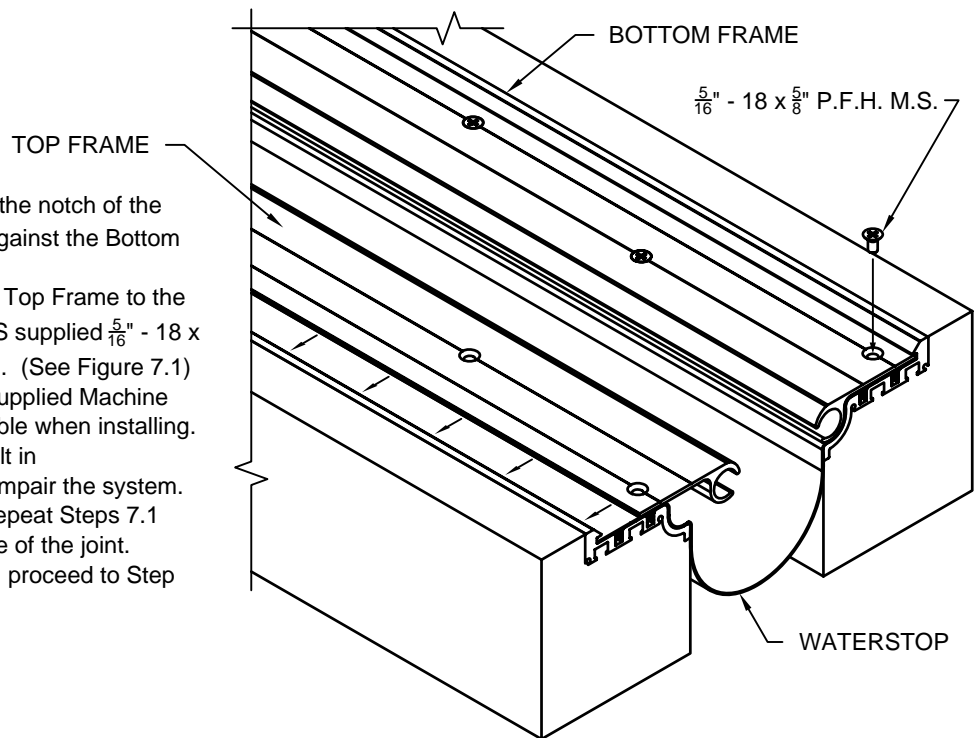

FIGURE 7.1
- 7.1) Slide the Top Frame under the notch of the Bottom Frame, and butt it against the Bottom Frame. (See Figure 7.1)
- 7.2) Once in position, fasten the Top Frame to the Bottom Frame using the C/S supplied $\frac{5}{16}$ " - 18 x $\frac{5}{8}$ " SS PFH Machine Screws. (See Figure 7.1)